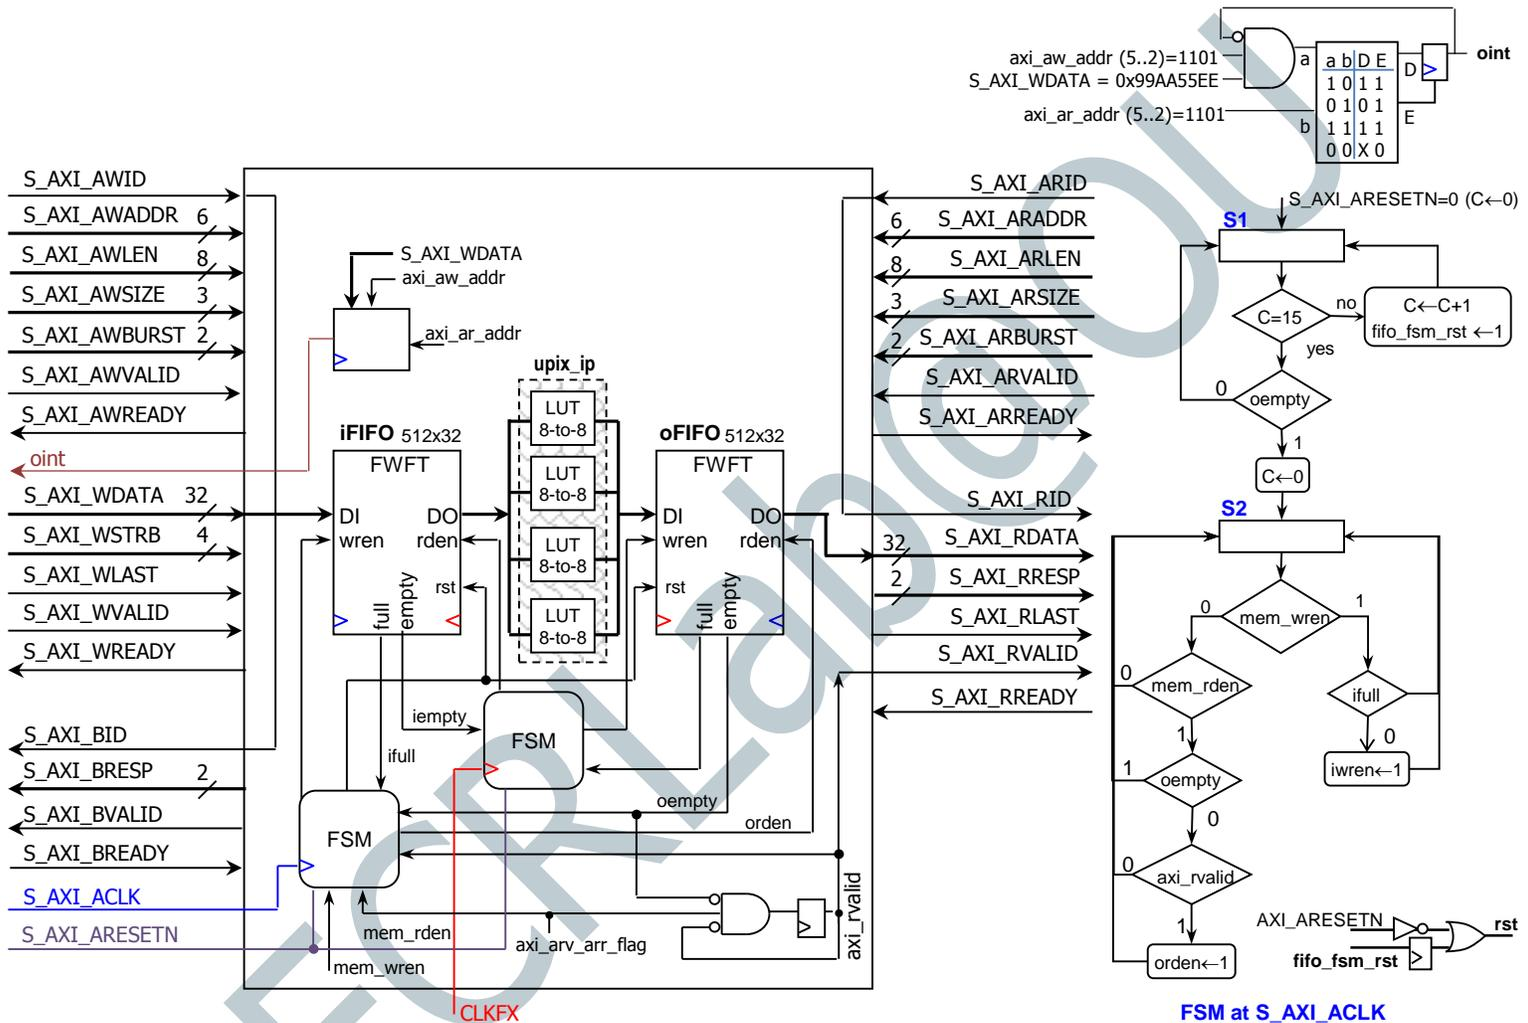

Figure 1. AXI4-Full Pixel Processor Peripheral with interrupt output (*oimt*)
- AXI4-Full Pixel Processor Peripheral (we make S_AXI_CLK=CLK_FX) with interrupt output *oint*: In Figure 1, see the circuit that generates *oint*. To assert and de-assert this interrupt signal, we need to write and read to/from address 1101. Writing on address 1101 still writes data on the iFIFO, and the reading retrieves resulting data from oFIFO.